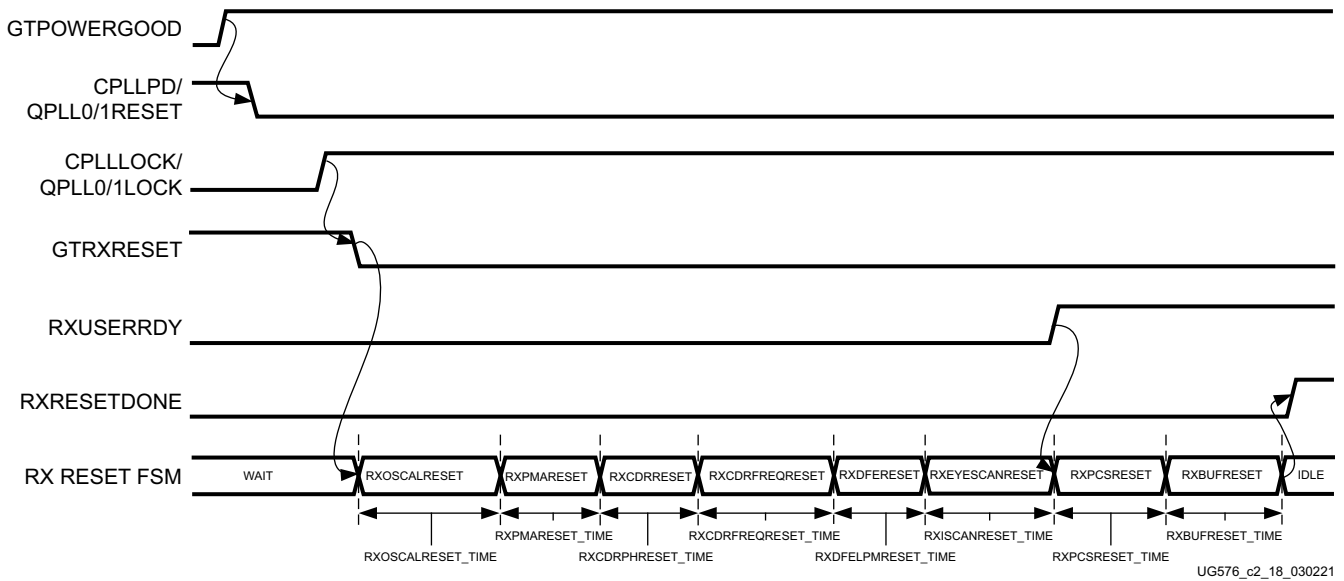

Figure 2-25: GTH Receiver after Configuration
3. Assert CPLLPD or QPLL0/1RESET and GTRXRESET following the reset sequence described in Figure 2-25.
RECOMMENDED: Use the associated PLLLOCK from either the CPLL or QPLL to release GTRXRESET from High to Low as shown in Figure 2-25. The RX reset state machine waits when GTRXRESET is High and starts the reset sequence until GTRXRESET is released Low.